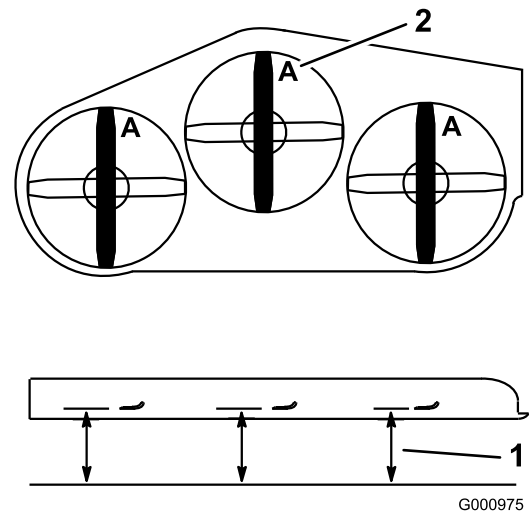

Figure 98
2. Measure from a level surface to the cutting edge, position A, of the blades (Figure 98).